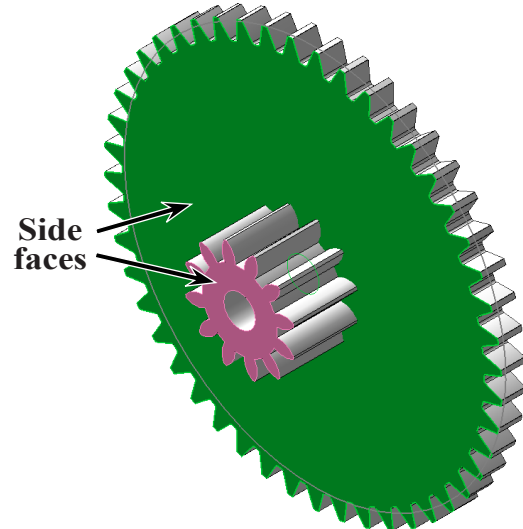
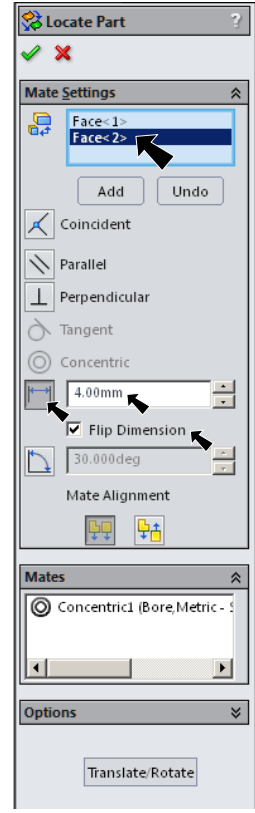

Fig. 15
Fig. 14
Step 5. In the Locate Part Property Manager: under Mate Settings, Fig. 14 click side face on both gears, Fig. 15.